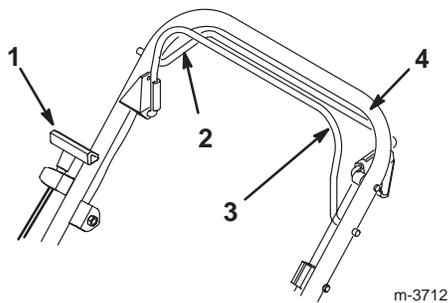

Figure 9
The starter handle, the self-propel drive bail, and the blade control bail are on the upper handle as shown in Figure 9.
3. Hold the blade control bail against the upper handle (Fig. 9).
4. Pull the starter handle lightly until you feel resistance, then pull it sharply (Fig. 9). Allow the rope return to the handle slowly.